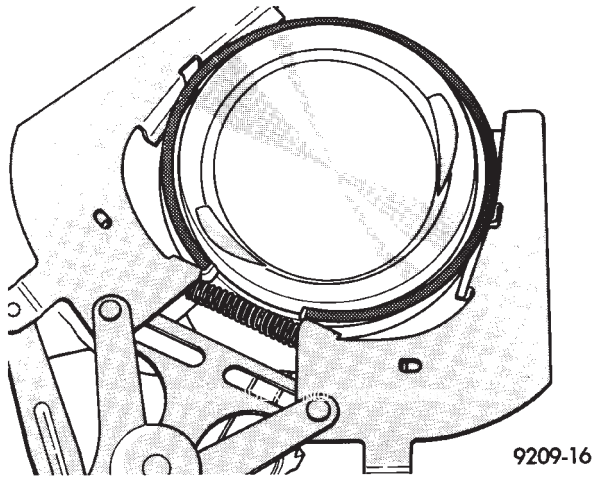

Fig. 80 Piston Ring—Removal
- (3) Remove piston rings (Fig. 80).